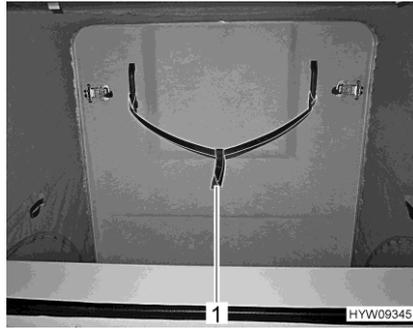
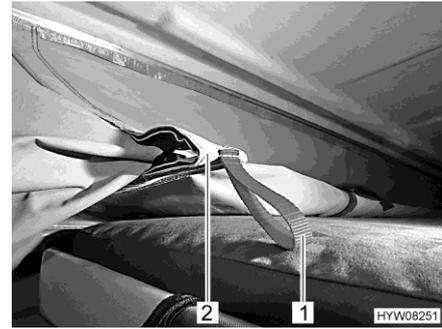

Fig. 39 Auxiliary strap (sleeping roof)
Fig. 40 Retraction device (sleeping roof)
- Slowly pull down the sleeping roof by the auxiliary strap (Fig. 39,1) until the sleeping roof remains in this position by itself. When doing this, make sure that the side retraction device (Fig. 40,2) bends inwards.
- Pull in the canvas by the red tongues (Fig. 40,1) of the retraction devices (Fig. 40,2).